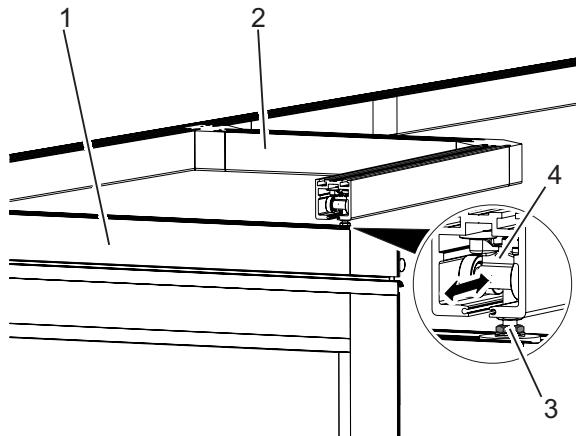

Fig. 22: Moving the rollers
1. Move the panel (Fig. 22/1), which is to be parked first in the stacking area (Fig. 22/2), into the stacking area.
2. Slightly loosen the nut (Fig. 22/3) at the branching off roller (Fig. 22/4).
4. Tighten the nut (Fig. 22/3) on the roller.